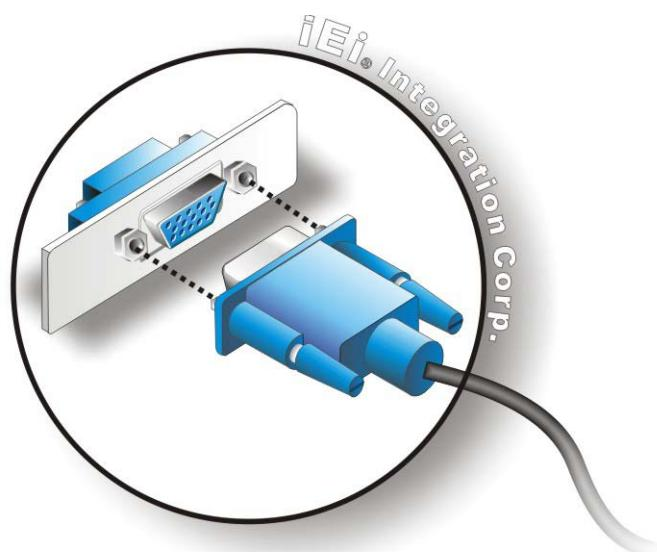

Figure 4-12: VGA Connector
Step 7: Insert the VGA connector Once the connectors are properly aligned with the insert the male connector from the VGA screen into the female connector on the NANO-SE-i1. See **Figure 4-12**.